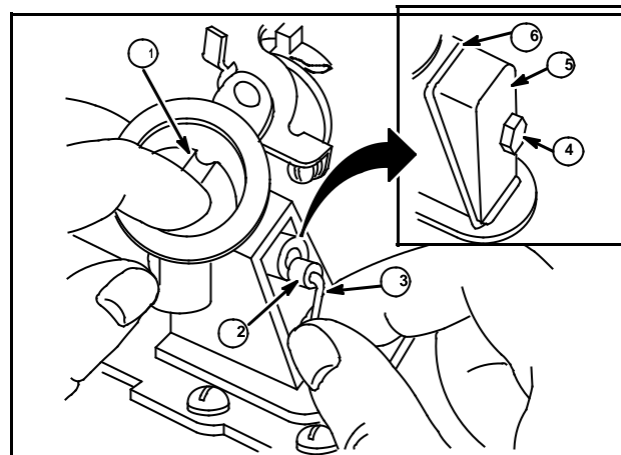

Fig. 45
6. Close choke plate (1). Insert choke link (3) into choke shaft (2) as shown, Fig. 45.
3. Move choke plate to normal closed position. Choke plate should now remain fully closed, Fig. 45.
5. Install choke link cover (5) and gasket (6) with screw (4), Fig. 45.